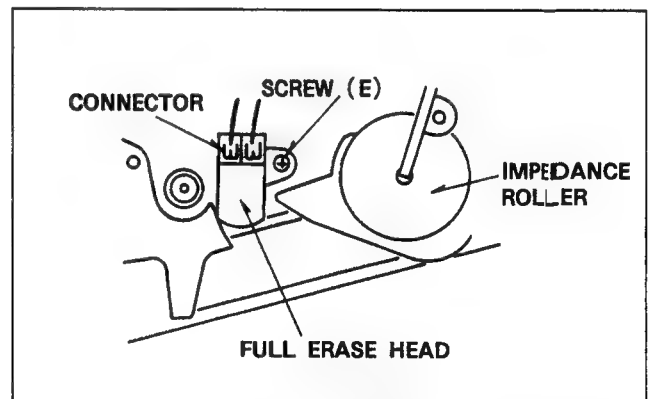

Figure M13
2. Unscrew a screw (E) and remove the Full Erase Head (Figure M13).